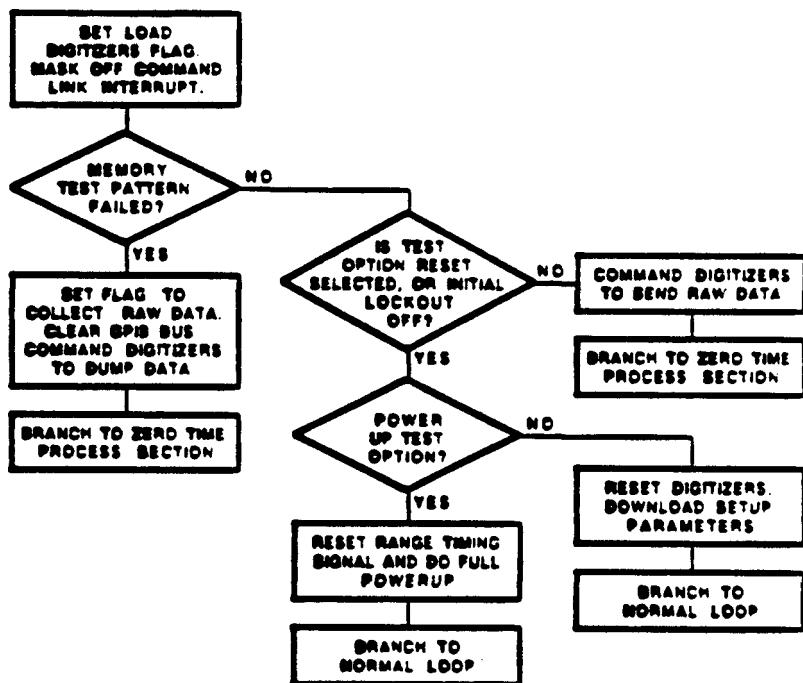

Figure 7. Flowchart of the Software Reset Loop
**Description.** This part of the code is entered once the microprocessor receives a range-timing reset from the ACE. Figure 7 is a flowchart for this section of the code.